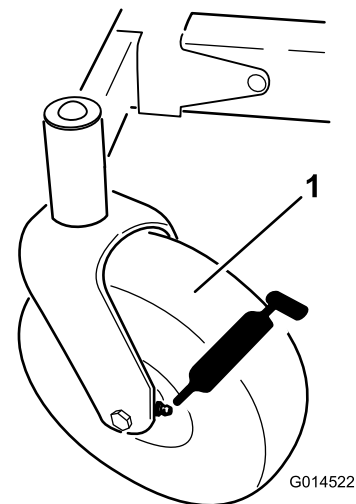
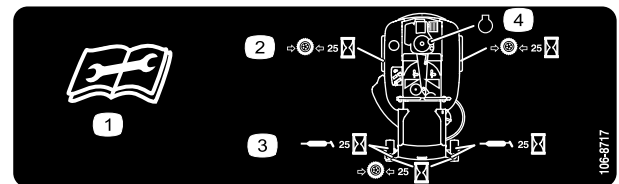

Figure 34
Figure 35
3. Clean the grease fittings (Figure 34 and Figure 35) with a rag. Make sure to scrape any paint off of the front of the fitting(s).
4. Connect a grease gun to each fitting (Figure 34 and Figure 35). Pump grease into the fittings until grease begins to ooze out of the bearings.